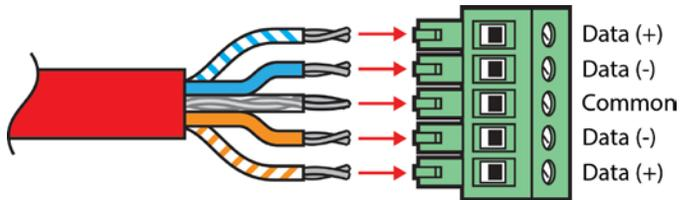

Figure 6. Cable pinout for data cable to cylinder body. To avoid a T-tap, the DMX runs down to the cylinder and back to the J-box
6. Install included 5-position connectors on data cable as shown in Figure 6 making sure to insulate the shield wire with heat-shrink or electrical tape and plug into DMX board as shown in Figure 8.